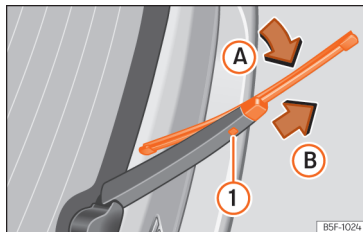

Fig. 192 Changing the rear wiper blade
- Rotate the blade lightly >>> Fig. 192 (arrow A).
- Hold down the release button ① while gently pulling the blade in the direction of arrow B.
- Insert a new blade of the **same length and type** in the rear wiper arm in the opposite direction to the arrow B until button ① hooks into place.